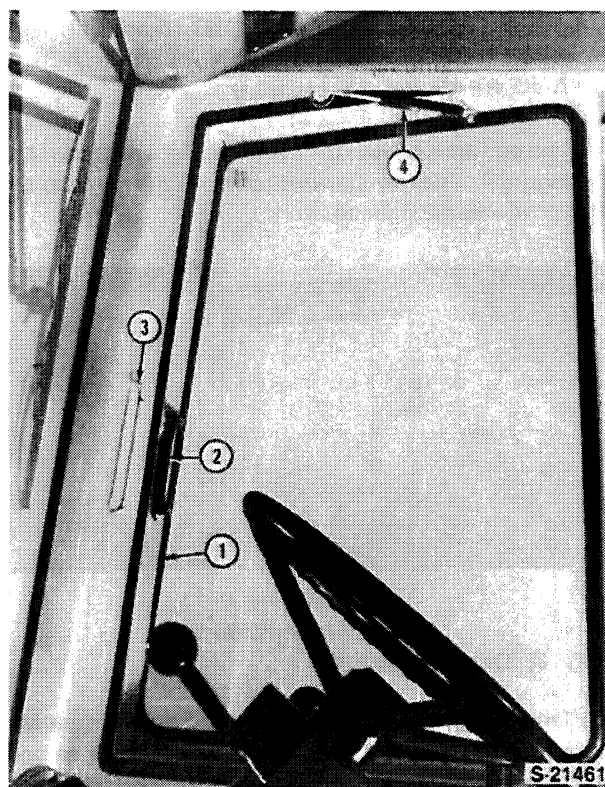

Figure 9
Side Window: To swing the side window out (open) pull the lock handle (2) back until it releases from the latch bracket (3), Figure 9. The gas cylinder (4) will assist in opening the window.